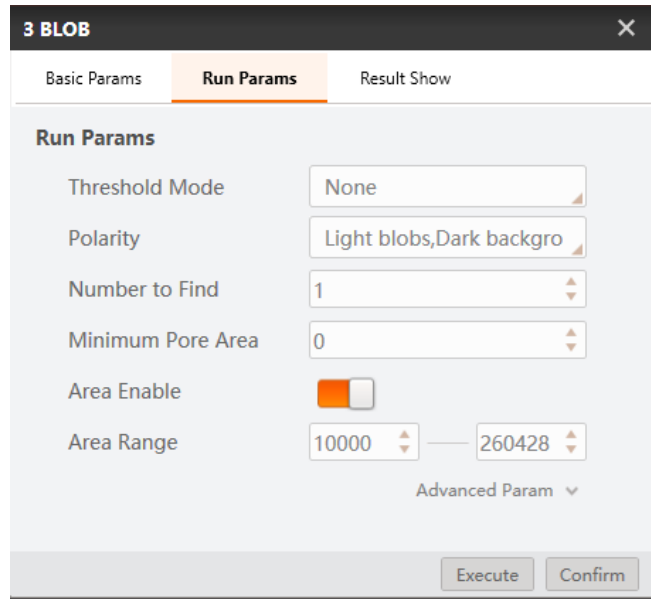

Figure 12.21 Run params
2. Set **Run Params**, as shown in Figure 12.21.